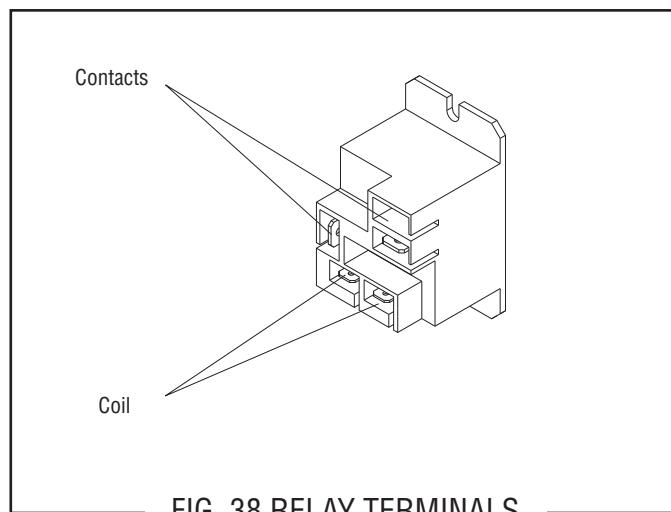

FIG. 38 RELAY TERMINALS
4. Refer to Fig. 38 to reconnect the wires.